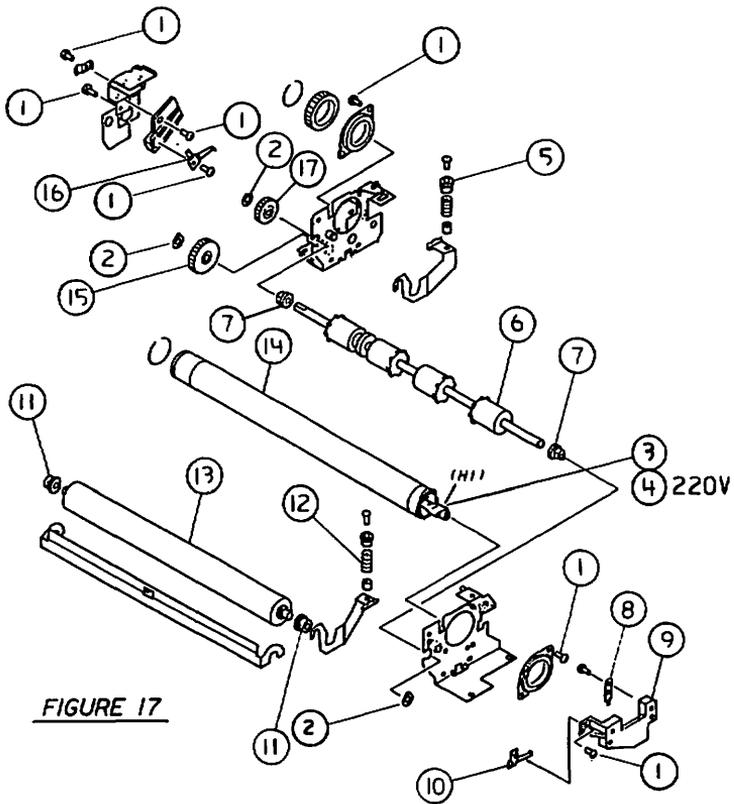

FIGURE 17
**LASERWRITER - FUSER ASSEMBLY (2 of 2) (Figure 17)**